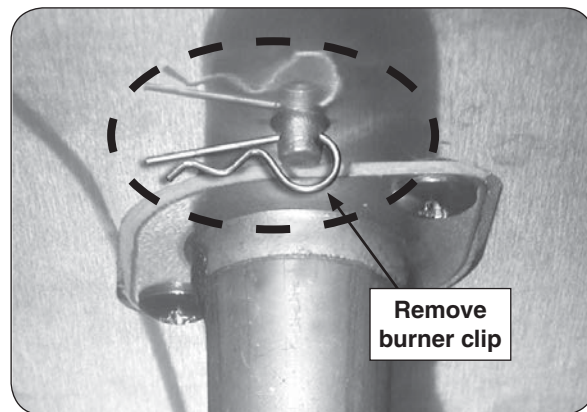

Fig. 35-1 Remove burner clip
3. Reach up under the burner support and remove the burner retaining clip (see Fig. 35-1), located at the rear of the burner pipe.
7. Replace the burner retaining clip (underneath burner). Reference Fig. 35-1.